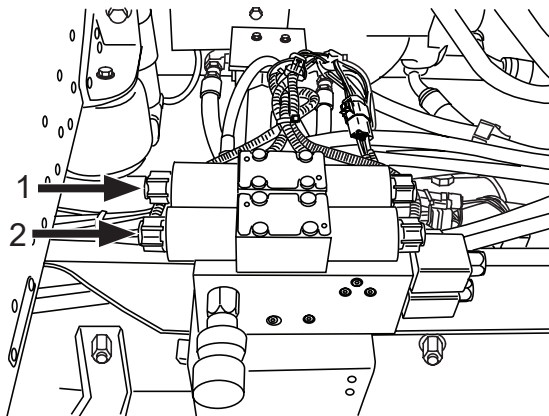

Figure 57
7. Manually shift the start/stop valve spool by pressing in on the end of the spool (Figure 57, Item 1).
8. Manually shift the raise/lower valve spool by pressing in on the end of the spool (Figure 57, Item 2).